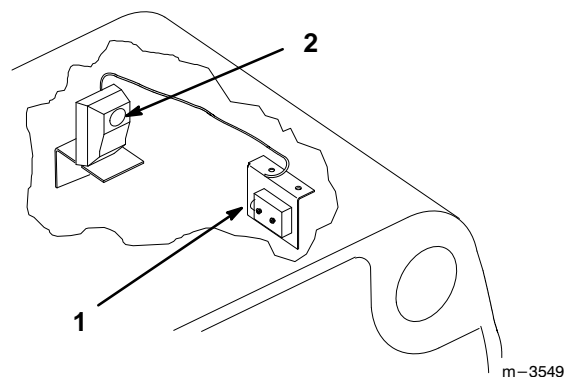

Figure 29
2. With the door open, wipe off the lenses of both the transmitter and receiver with a soft cloth or paper towel (Fig. 29).
3. To test the hopper full sensor for proper operation turn the ignition key and PTO switch to "ON", but do not start the engine. Place a piece of heavy cardboard in front of the transmitter to block the light beam (Fig. 29). The alarm buzzer should sound.